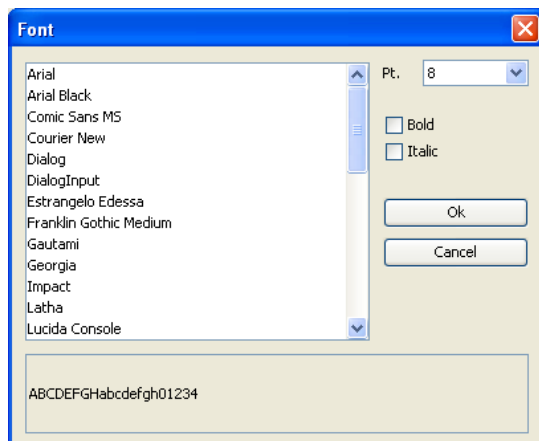

Figure 4.5: The Select Font Dialog Box
- the button with the three dots, which in turn opens a second dialog box for choosing the appropriate font and size (Figure 4.5).